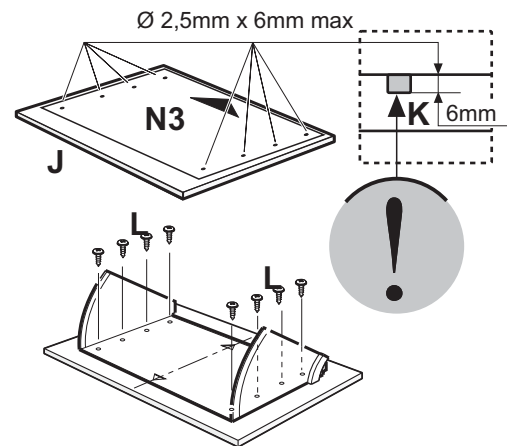

Fig. 10
- Apply the drill holes diagram N3 on the rear of the furniture door (Fig. 10,J-the arrow on the diagram should face the upper border of the furniture door), perform blind holes as indicated (K-Fig. 10).
- Place the visor over the furniture door and affix with 8 screws (Fig. 10,L).